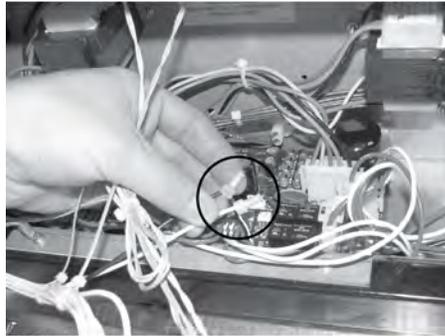

Figure 6-7 Filter Beacon Wires
- 3) Locate and cut the light wires and pull the light from unit. See Figure 6-7 Filter Beacon Wires, page 58.